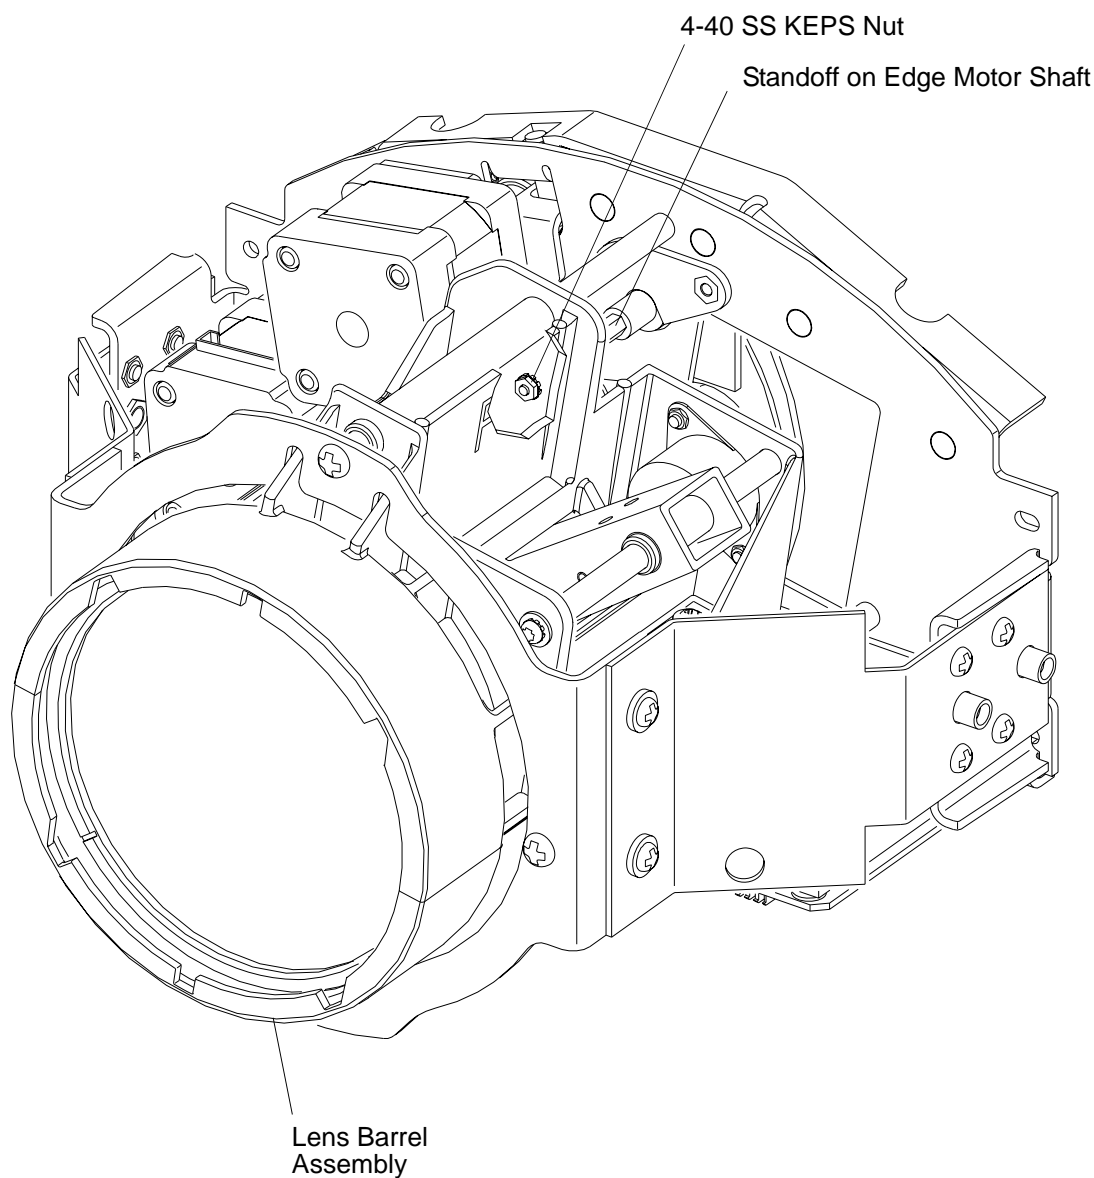

Figure 2-10: Removing Nut From Edge Motor Assembly Shaft
Step 5. At lens barrel assembly, use 1/4-inch open-ended wrench to hold standoff on edge motor shaft, and using another 1/4-inch open-ended wrench, remove 4-40 SS KEPS nut from end of motor shaft. **Figure 2-10.**
- Step 5. At lens barrel assembly, use 1/4-inch open-ended wrench to hold standoff on edge motor shaft, and using another 1/4-inch open-ended wrench, remove 4-40 SS KEPS nut from end of motor shaft. **Figure 2-10.**